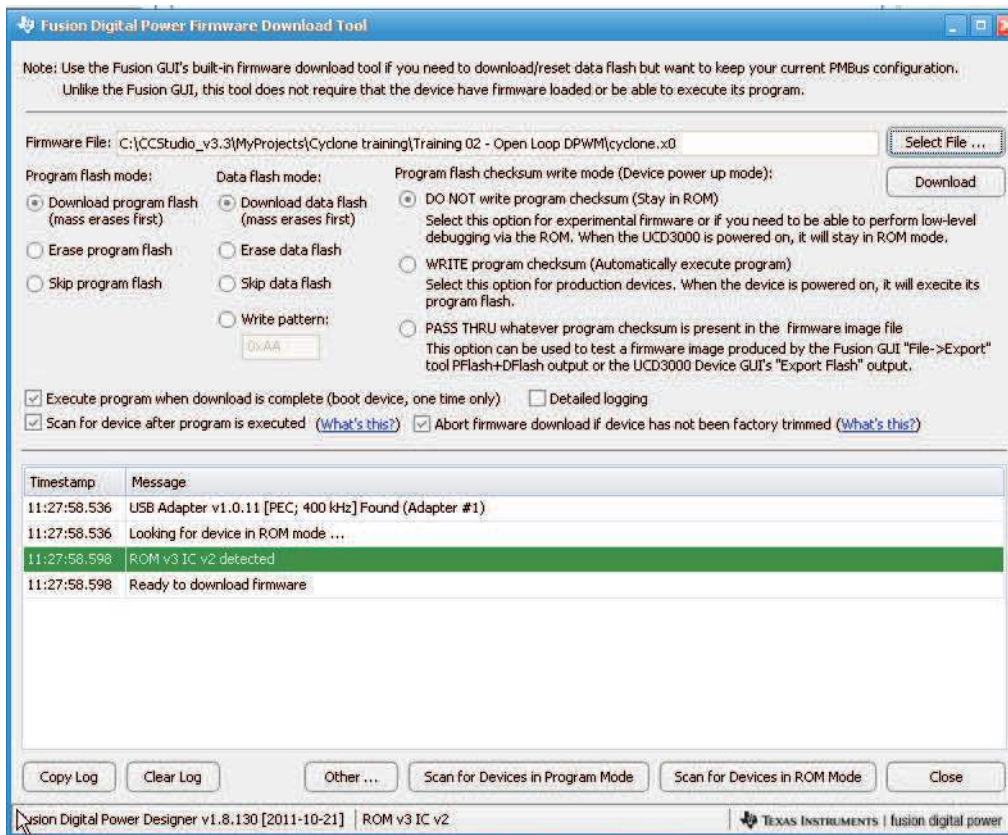

Figure 14. Firmware Code Downloading
4. Check **Download program flash**, **Download data flash** and **DO NOT write program checksum** as shown in Figure 14.
5. Click **Firmware Download**; then a new window appears as shown in Figure 14. Click **Select File** and browse an intended firmware code file with file extension **.x0**; then click **Download**. Click **Close** to exit the download window.